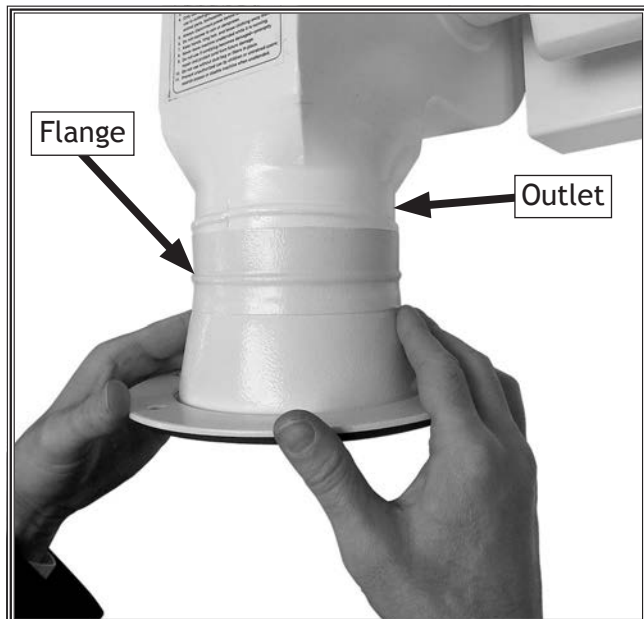

Figure 3. Mounting connection flange.
4. Mount collection flange onto collector body outlet (see Figure 3).